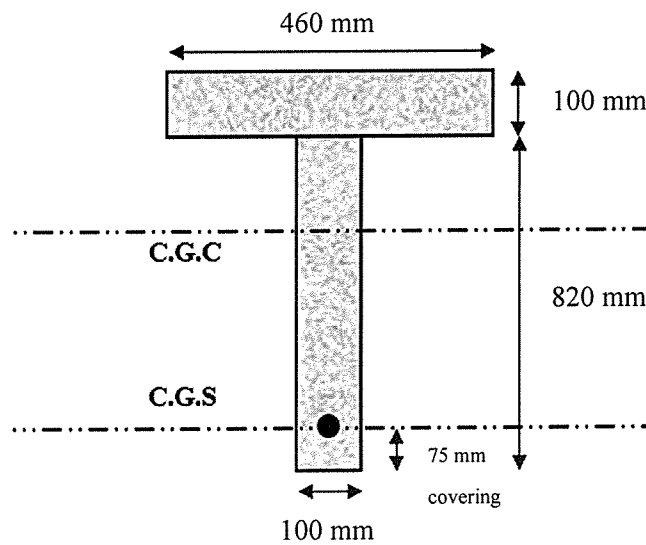

Figure 1: Preliminary section of a T-beam
a. Design a final version of the post-tensioned prestressed concrete beam, based on the preliminary section shown in **Figure 1**. **The tensile stress of the beam has to be considered.** [Given, $f_b = -13.5$ MPa, $f_t = -12$ MPa, $f_0 = 1040$ MPa, $f_b = 1.75$ MPa, $f_t = 2.0$ MPa, $M_G = 300$ kN-m, $M_T = 450$ kN-m, $h = 920$ mm, $F = 800$ kN, $F_0 = 960$ kN]